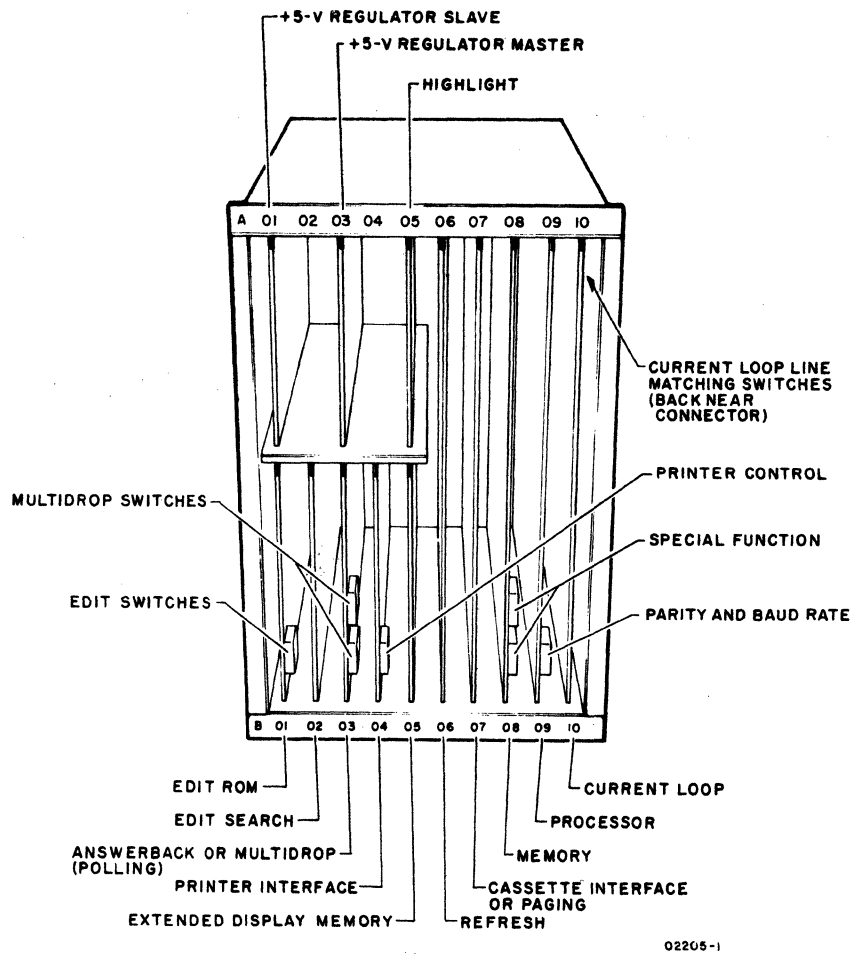

Figure CRT8. Logic Card Cage Board Locations
- 7) Place board in correct location (figure CRT8) and slide board in track until board is touching socket at end of track.